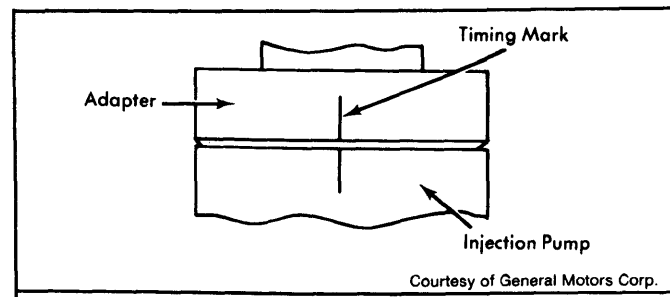

Fig. 4: Aligning Timing Marks On Pump & Adapter
2) Connect pump lines at nozzles and tighten to 25 ft. lbs. with 2 wrenches. Connect fuel return lines to nozzles and pump. Align mark on injection pump with line on adapter. See Fig. 4. Tighten retaining nuts to 18 ft. lbs.
1) Engine is properly timed when marks on top of injection pump adapter and pump flange are aligned. See Fig. 4. If marks are not aligned, adjustment is necessary.